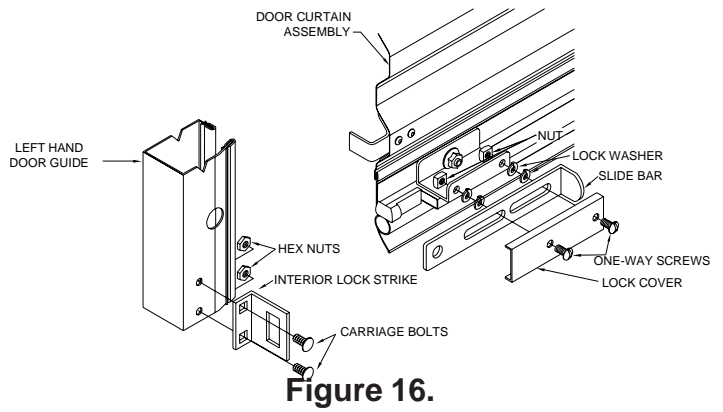

**Figure 15.**
11.2 Place the door in the closed position before installing the brush seal. Position brush seal so that it just touches the flat portion of the curtain. (See Figure 15.) Fasten brush seals to jamb every 12 inches with appropriate fasteners.